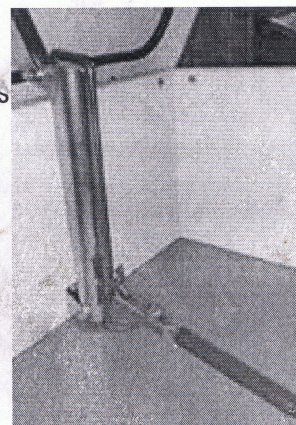
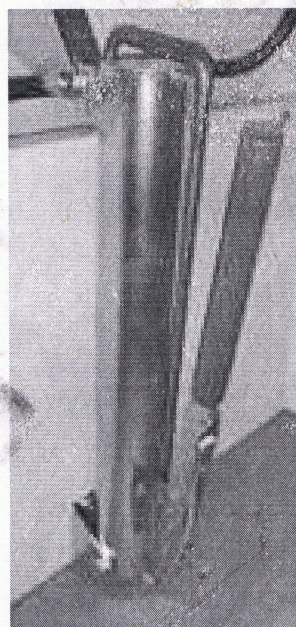

Fig. 1
Fig. 2
2. Install the spring compression tool over the cylinders as shown in Fig 1.
3. Rotate the tool lever arm up to compress the cylinder before removing bolts as shown in Fig. 2.
12. Position the spring compression clamp tool as shown in Fig.1, then compress the cylinders together by moving the clamp handle up as shown in Fig. 2.